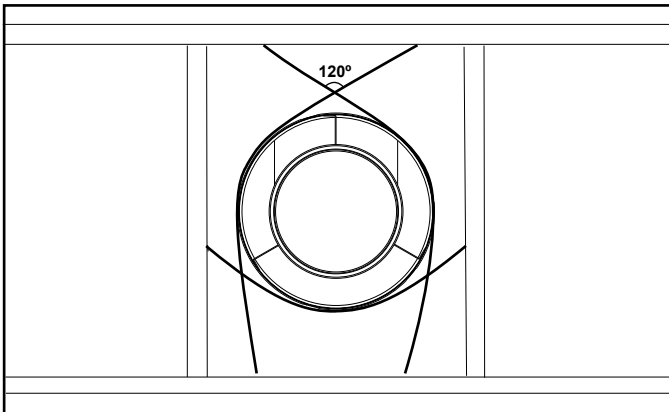

Figure 7.7 Securing Vertical Pipe Sections
- Vent supports or plumbers strap (spaced 120° apart) may be used to support vent sections. See Figures 7.7 and 7.8.
Note: Figures 7.7 and 7.8 are to be used for reference only. Method of strap installation could vary by configuration of vent system.